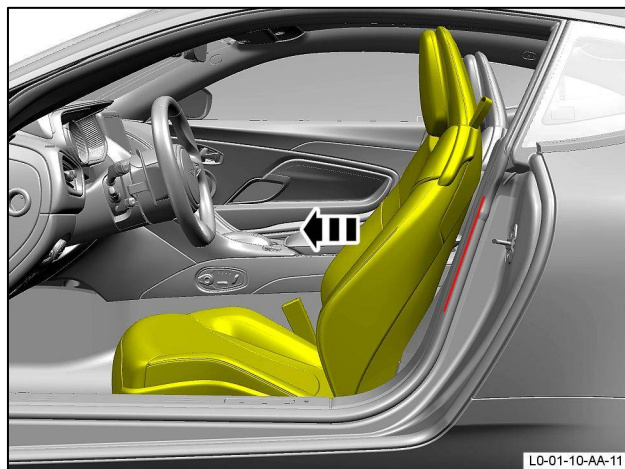

Figure 3
1. Operate the seat to its fully forward position (refer to Figure 3).